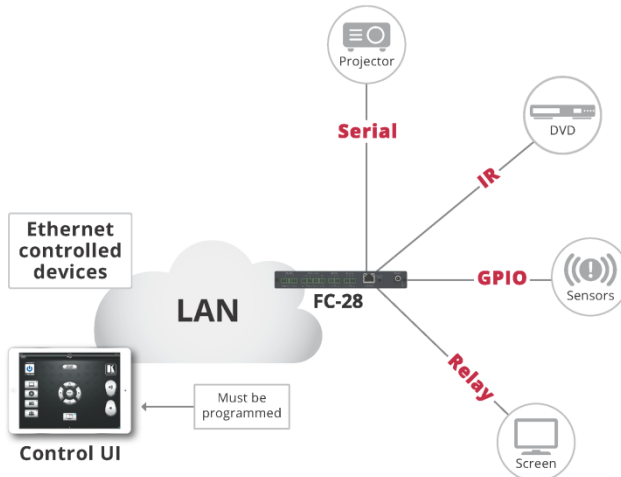

Figure 1: FC-28 Controlling Devices Remotely Using K-Touch 3.0 over a LAN
- Works in conjunction with **K-Touch 3** for remote control of devices over an Ethernet LAN via I/O interface connections, (see Figure 1)